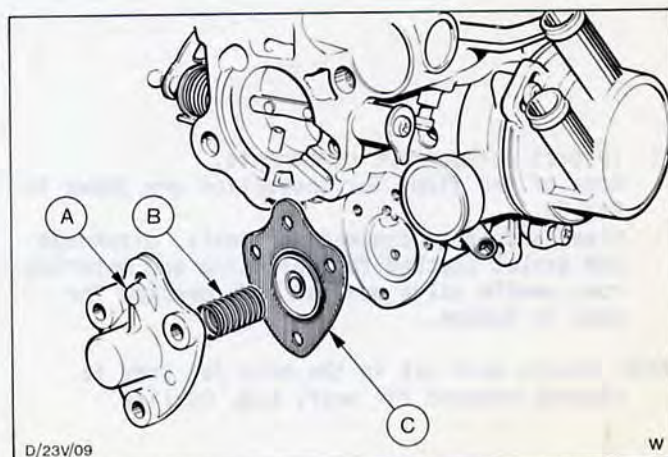

Fig.56. Accelerator pump assembly.
14. Refit accelerator pump diaphragm assembly in the order shown in Fig.56.